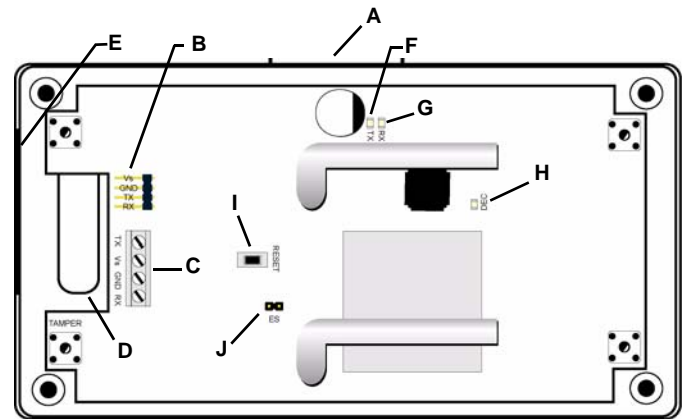

Figure 1 Serial Receiver components
1. To enable compatibility with ES products, place a selection jumper on the enable EchoStream selection pins (Fig. 1).
2. If no ES products are used in your system, remove the selection jumper from the EchoStream selection pins (Fig. 1).